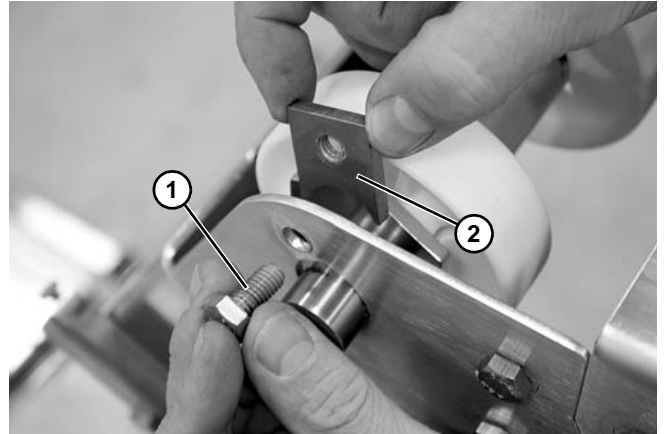

Figure 129
3. Remove screw (**Figure 129, item 1**) and shaft retainer (**Figure 129, item 2**) for upper shaft assembly. Repeat for the other side.